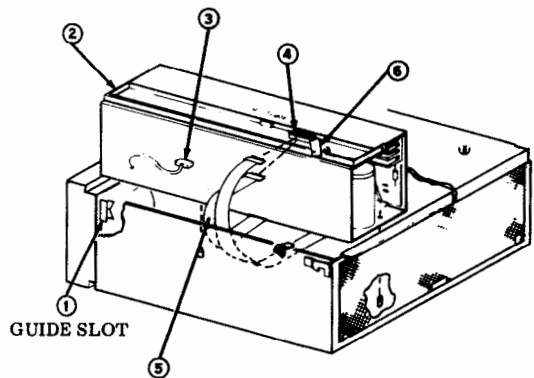

Fig. 56
Step 15 — Mounting the 40PSU101 Power Supply into module frame (see Note and Fig. 56):
- ① Install power supply through slot and seat onto guide pins.
- ② Drop handle.
- ③ Connect plug from ventilation assembly.
- ④ Loosen rear insulator screw and swing insulator aside.